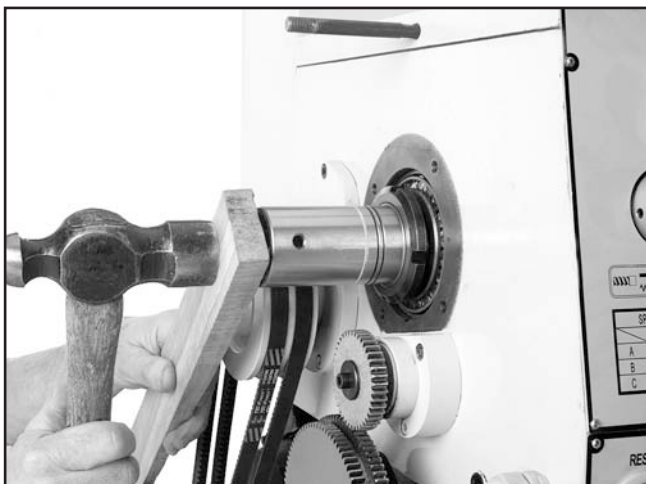

Figure 55. Introducing detectable end-play.
7. Place a wooden block over the outboard end of the spindle, hit it soundly with a small sledge or heavy dead blow hammer (**Figure 55**). Your goal is to slide the spindle forward just enough to introduce spindle end-play that you can feel by hand.